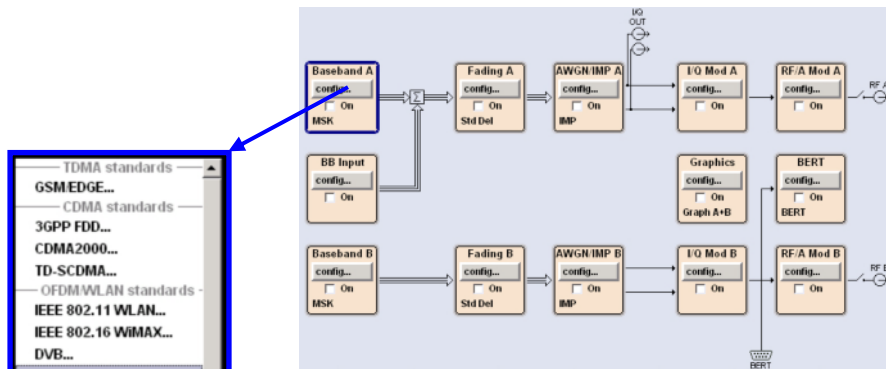

Figure 5-1 SMU200A – Diagram area
- a) Select “Baseband A” block in SMU diagram area (Figure 5-1),